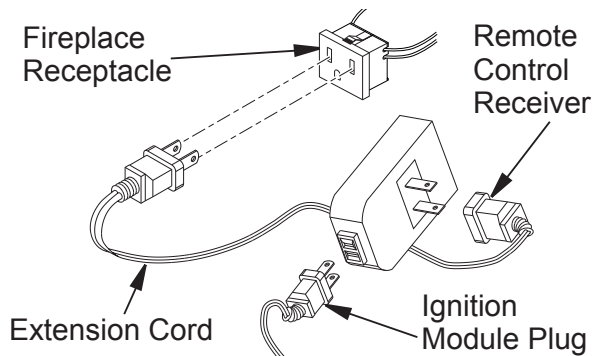

Figure 14 - Installing WRC Remote Receiver
2. The WRC model receiver does not require a battery. Receiver can be installed by plugging the short extension cord into fireplace receptacle. Plug receiver unit into extension cord. Plug ignition module plug into receiver unit (see **Figure 14**).